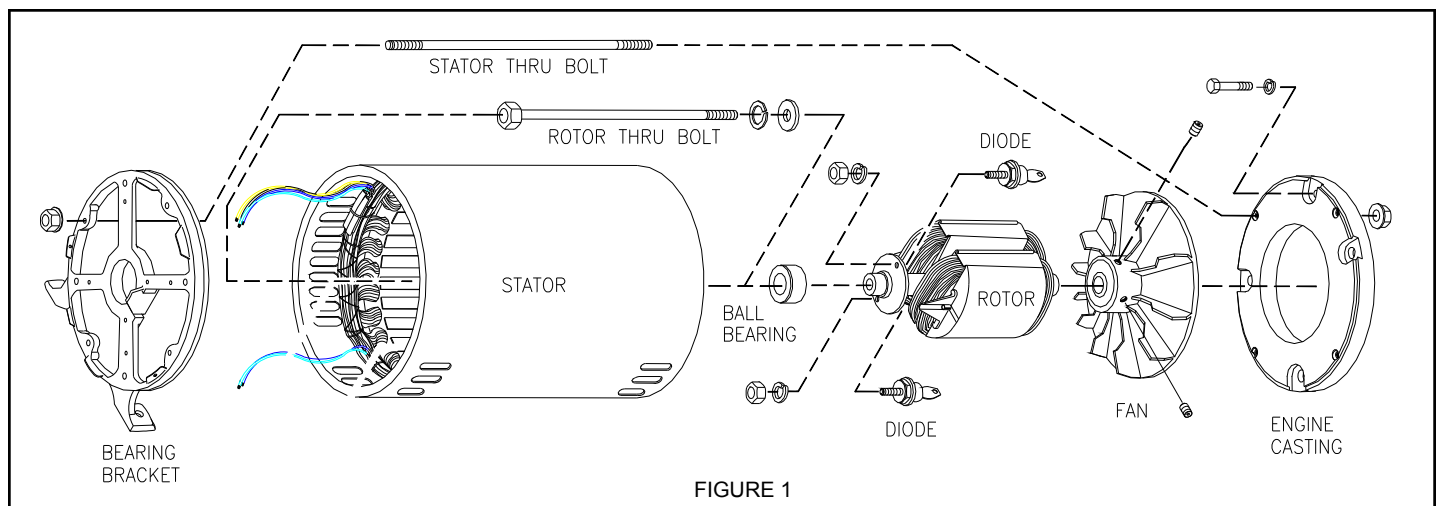

FIGURE 1
Each generator component is described in detail. (See Figure 1)
STEP 6. Open, Shorted, or Grounded Stator Main Windings: The stator is the outside stationary winding as shown in Figure 1. It consists of copper wire laid in a steel laminated frame. To remove stator assembly, follow disassembly instructions, part #1 through #5, on page 10.